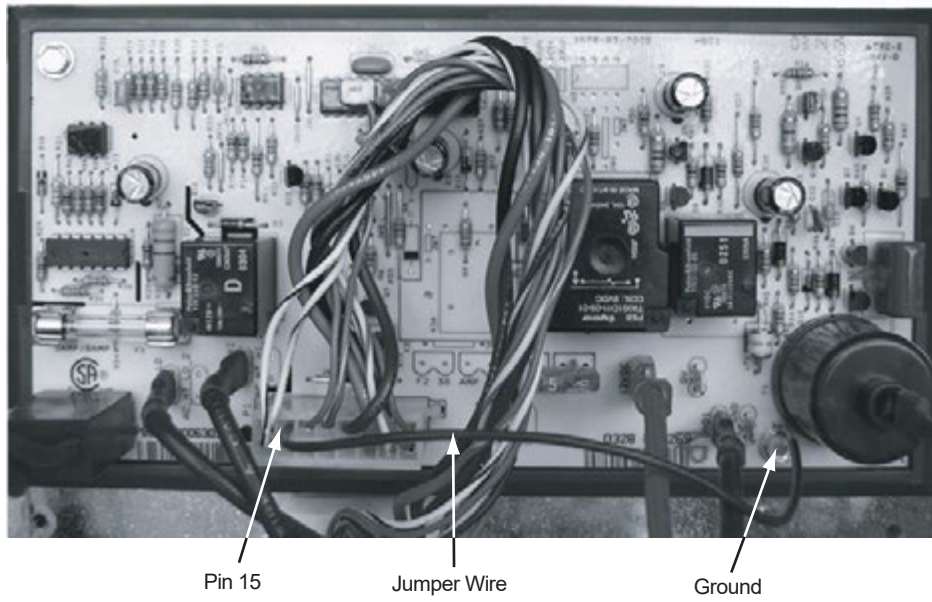

Figure 2. Resetting the power board (model N109X power board shown)
6. Locate Pin 15 on the wire harness 16 pin connector (P1). Pin 15 is the socket to the right of the white/violet wire. See Figure 2, page 3.
7. Using an insulated jumper wire, short Pin 15 to the power board ground lug for 10 to 15 seconds. A click sound will indicate when the controls are reset. See Figure 2, page 3 of the appropriate model service manual.